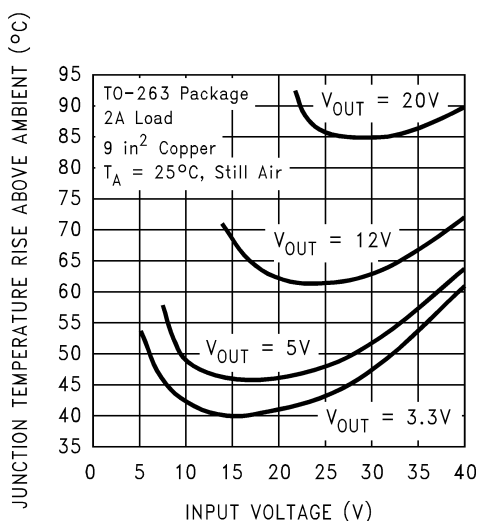

Figure 39. Junction Temperature Rise, TO-263
The LM2590HV is available in two packages, a 5-pin TO-220 (T) and a 5-pin surface-mount TO-263 (S). The TO-220 package needs a heat sink under most conditions. The size of the heatsink depends on the input voltage, the output voltage, the load current and the ambient temperature. Higher ambient temperatures require more heat sinking. The TO-263 surface-mount package tab is designed to be soldered to the copper on a printed circuit board. The copper and the board are the heat sink for this package and the other heat producing components, such as the catch diode and inductor. The PCB copper area that the package is soldered to must be at least 0.4 in², and ideally must have 2 or more square inches of 2 oz. (0.0028) in. copper. Additional copper area improves the thermal characteristics, but with copper areas greater than approximately 6 in², only small improvements in heat dissipation are realized. If further thermal improvements are needed, double-sided, multilayer PC board with large copper areas or airflow are recommended. The curves shown in Figure 39 show the LM2590HV (TO-263 package) junction temperature rise above ambient temperature with a 2-A load for various input and output voltages. This data was taken with the circuit operating as a buck switching regulator with all components mounted on a PCB to simulate the junction temperature under actual operating conditions. This curve can be used for a quick check for the approximate junction temperature for various conditions, but be aware that there are many factors that can affect the junction temperature. When load currents higher than 2 A